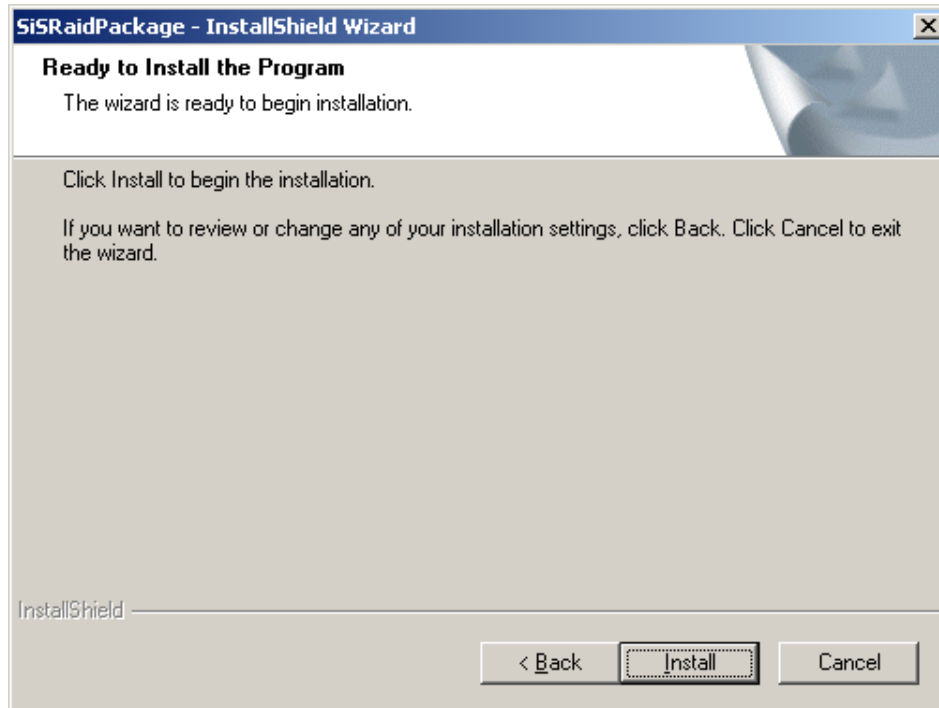

Figure 6-34: Ready to Install
Step 12: The **Ready to Install** window appears (**Figure 6-34**).